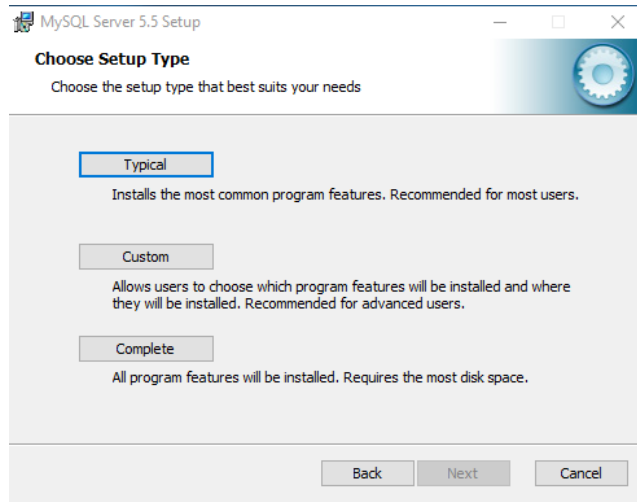

Figure A4
4. When prompted to choose the installation type, select "Custom". (Figure A4)